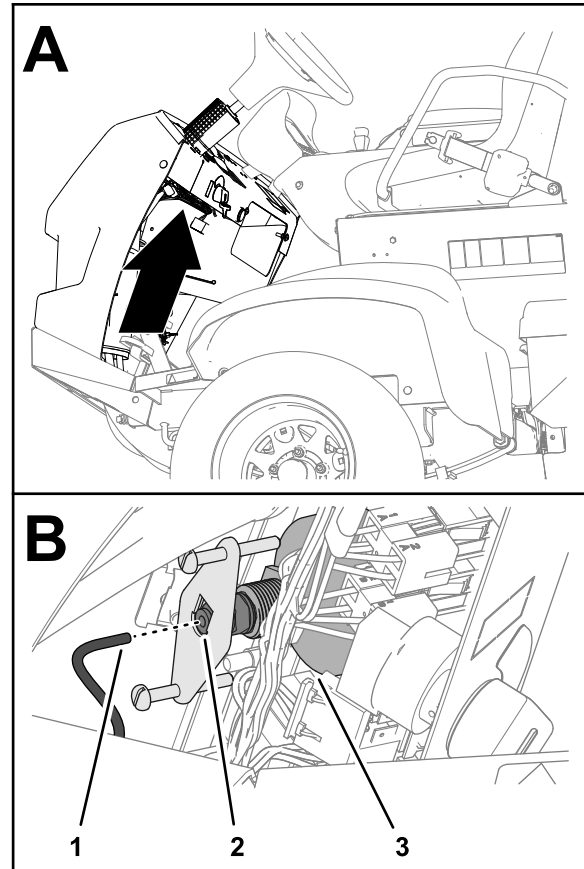

Figure 129
1. Insert the pressure-gauge tube into the tube coupler at back of the pressure gauge (Figure 129).